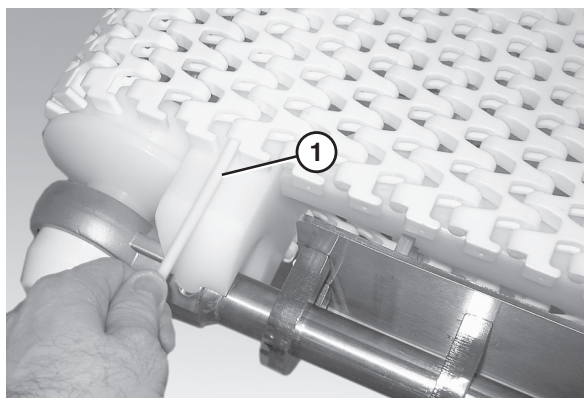

Figure 31
4. Insert the belt rod (Figure 31, item 1).